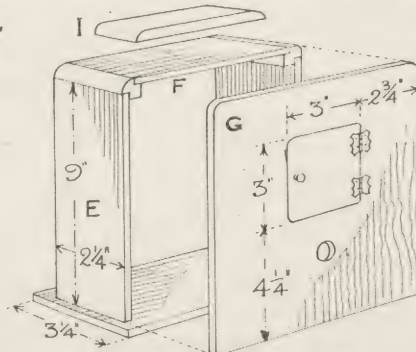

Fig. 2—A back view showing construction
which comes above it. Cut piece D to its correct sizes and with square corners, then two pieces E and one piece F. These three latter pieces will be glued into the two lengths of No. 304 corner moulding as shown in Fig. 2. The front of the case is then marked out and cut as Fig. 3. This front (H) has the circular opening cut according to the dimensions given, while the back (G) shown in Fig. 2, has the small door formed in it by cutting round to the sizes given and hinging to the case.